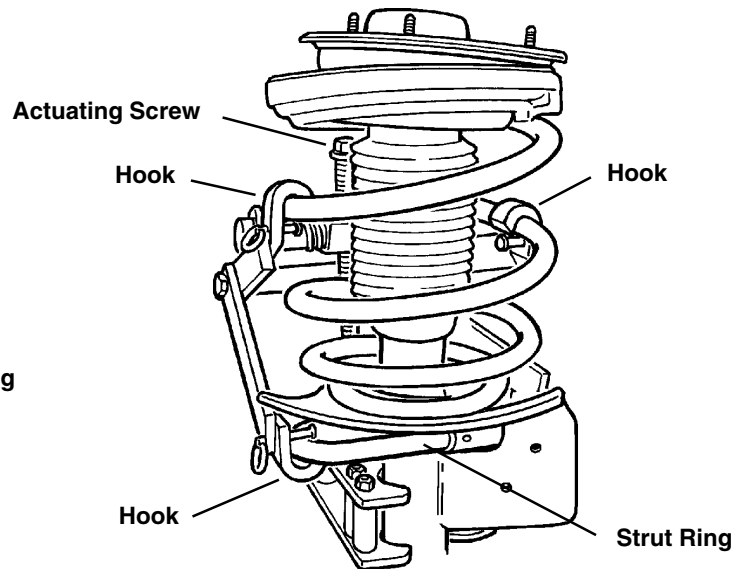

Figure 3
4. Place two of the hooks from the clamshell strut tool around a coil as close to the top of the spring as possible. See Figure 3. **Note:** The 3/4" hex on the actuating screw should be up.